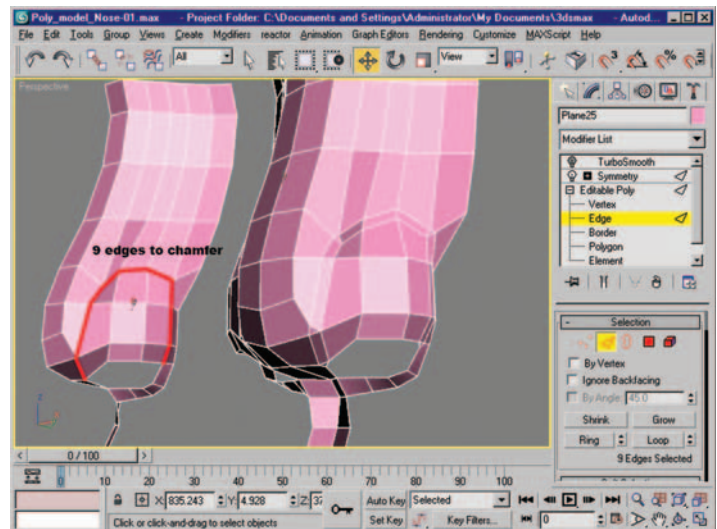

Figure 3.23 Edge selection highlighted in red and edge selection after being chamfered.
28. Select the nine edges that create the curve between the nostril (Figure 3.23) and the bridge (center section)
of the nose. Once you have the edges selected, you will chamfer them. The value required is scale dependent, so depending on the size of your model you are going to need to adjust your value. Regardless of the scale of your nose model, your chamfered edge should visually/proportionally appear as it does in the screen capture in Figure 3.23.